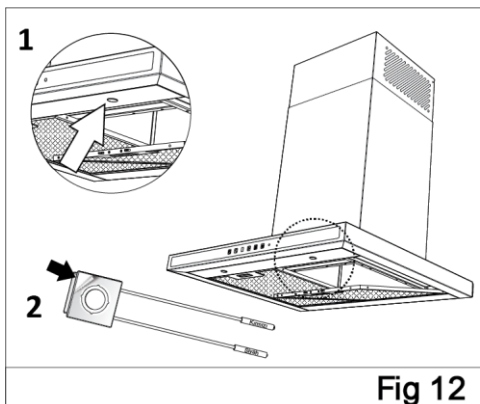

Fig 12
- LED bulb does not operate is possible to remove as shown in Figure 12